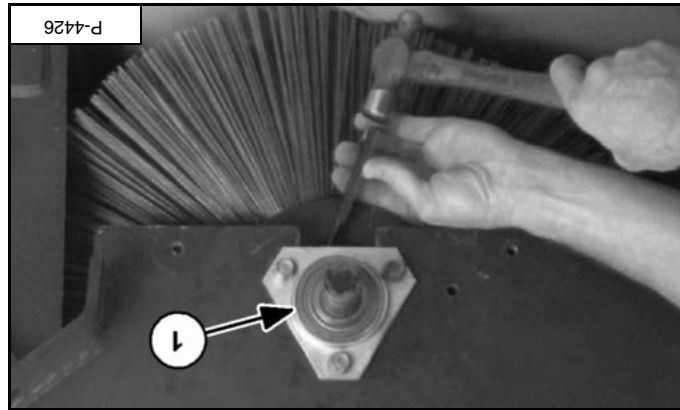

Figure 119
Install the broom in the mounting frame. Move the bearings, if needed to install the bearing mounting flange (item 1) [Figure 119].
Use a punch and hammer, tap on the hole of the locking collar to tighten the collar [Figure 119].